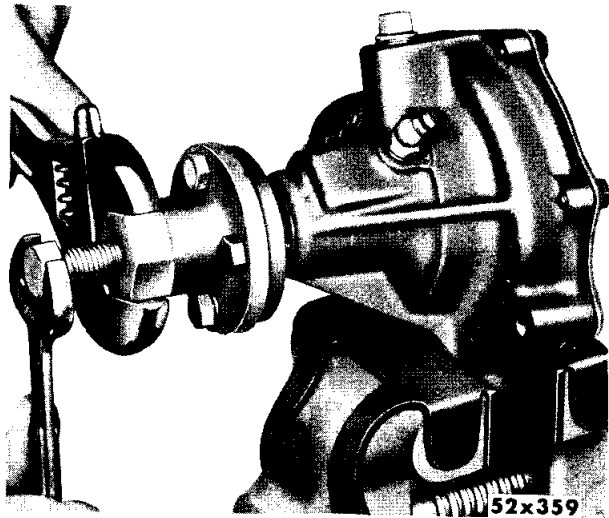

Fig. 1—Removing Hub from Water Pump Shaft
- (1) Remove cap screws which hold the cover to the pump body and take off the cover.
- (2) Drive out fan pulley hub pin.
- (3) Pull hub off shaft (Fig. 1).
- (4) Pull impeller and shaft assembly out of the pump body:
- (5) Drive out pin which holds the impeller to the shaft (if so equipped). This operation is not necessary if *new* shaft, impeller and seal assembly is to be installed.
- (2) Pull the fan pulley hub off the shaft, as shown in Figure 1.
- (3) Remove the water pump body back plate.
- (4) Remove the snap ring from the front of the impeller shaft front bearing. From the impeller end, drive the shaft out through the front of the housing.
- (5) Remove the impeller shaft bearings and spacer.